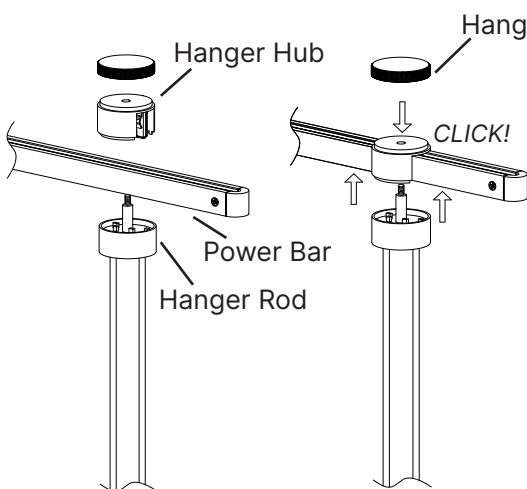

Fig. 3
2. Press down firmly on top of **Hub**, while pressing up on the bottom of the **Power Bar**, until the Hub clicks into place (Fig. 3).